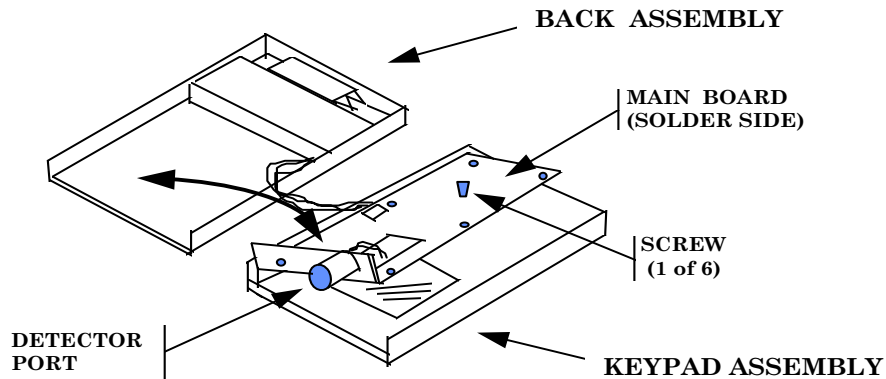
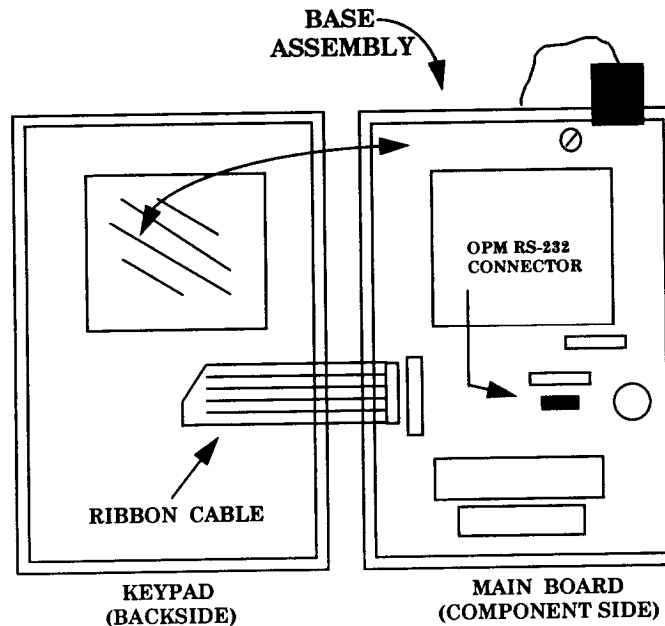

Figure 2. OPM back assembly removal from main board and keypad assembly.
Figure 3. OPM RS-232 connector location.
(1) Ensure OPM power is turned **OFF**.
(2) Remove six screws from back of OPM case.
(3) Carefully lift **BACK ASSEMBLY** up and away from **MAIN BOARD** and **KEYPAD ASSEMBLY** (fig. 2).
- (4) Remove six screws from MAIN BOARD (fig. 3).
- (5) Carefully lift MAIN BOARD (fig. 2 and 3) and place on BACK ASSEMBLY (fig. 2); leave RIBBON CABLE connected (fig. 3).
- (6) Connect RS-232 cable to OPM RS-232 CONNECTOR (fig. 3) and other end of RS-232 cable to serial port on computer.
- (7) Place floppy disk containing calibration software in disk drive (obtain **A:** prompt) and type **TS4358**, then press **ENTER** key on computer keyboard.
- (8) Press **ON/OFF** pushbutton to **ON**.
- (9) Follow instructions which appear on screen.